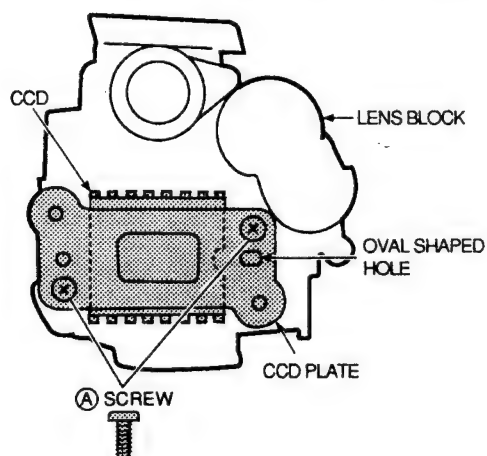

Fig. 3-6
4. Place the CCD plate (with the rubber seal attached) on the LENS BLOCK, the oval shaped hole (CCD's groove side) on the CCD PLATE must be the right side as shown in Fig. 3-6. Then tighten the two retaining screws.